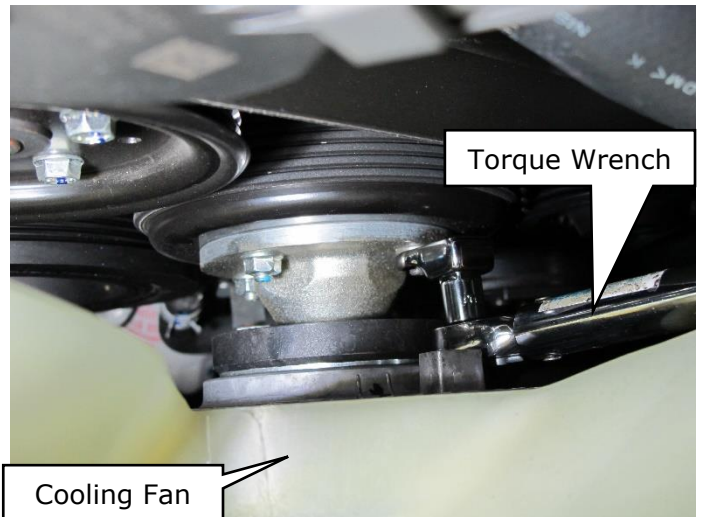

Figure 10
8. Using an inch lb torque wrench, adaptor and a 10mm crow's foot, torque the 2-3 fan coupling nuts that can be reached from the front top of the engine (Figure 10).